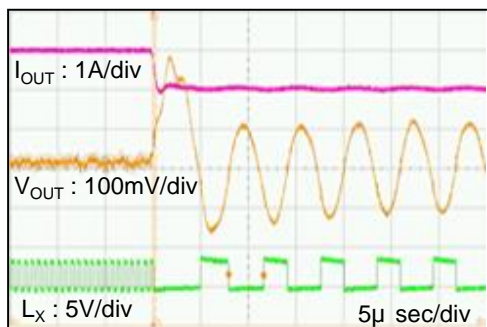
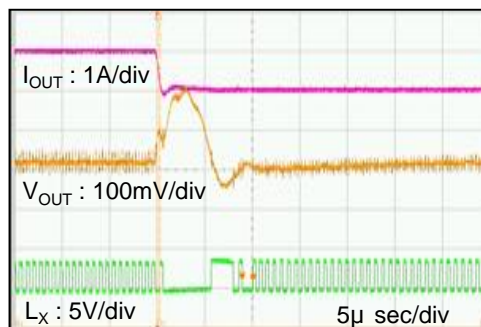
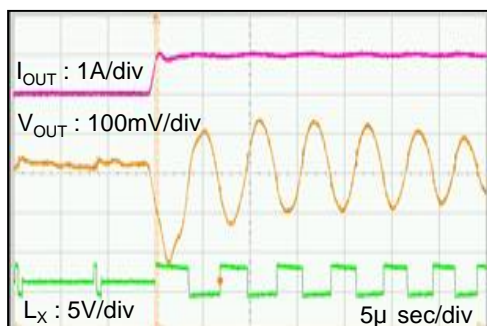
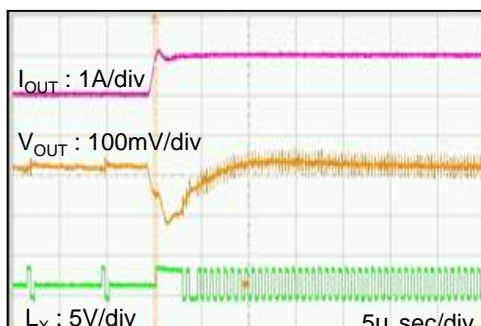

Fig.14-1 Insufficient C_L ($T_a = -40^\circ\text{C}$, $C_L = 10\mu\text{F}$)
Fig.14-2 Sufficient C_L ($T_a = -40^\circ\text{C}$, $C_L = 20\mu\text{F}$)
Fig.14-3 Insufficient C_L ($T_a = -40^\circ\text{C}$, $C_L = 10\mu\text{F}$)
Fig.14-4 Sufficient C_L ($T_a = -40^\circ\text{C}$, $C_L = 20\mu\text{F}$)
14. If the capacitance value is not sufficient by degrading C_L due to the low temp. condition and DC bias feature, 100% duty cycle might come up for the load transient condition. Add capacitance value for C_L if necessary. (Refer to Fig14-1, Fig14-2, Fig14-3, Fig.14-4)